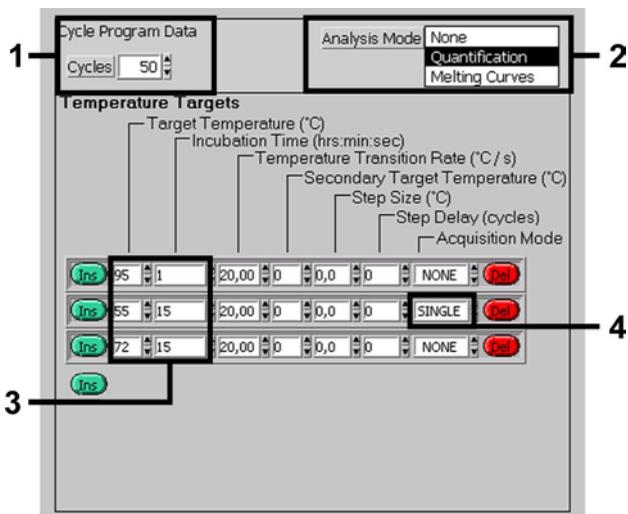

Fig. 5: Amplification of the cDNA.
- C. Amplification of the cDNA Fig. 5